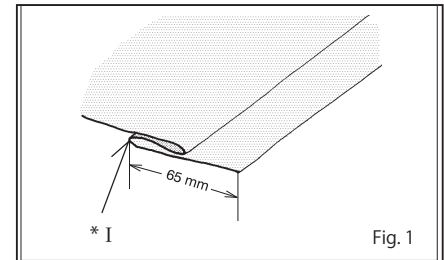

Fig. 1
1. Turn up the hem to the required depth and press. Fold the hem back against the 'right' side of the garment, creating a 'soft' fold on the 'wrong' side of the fabric - see Fig. 1.